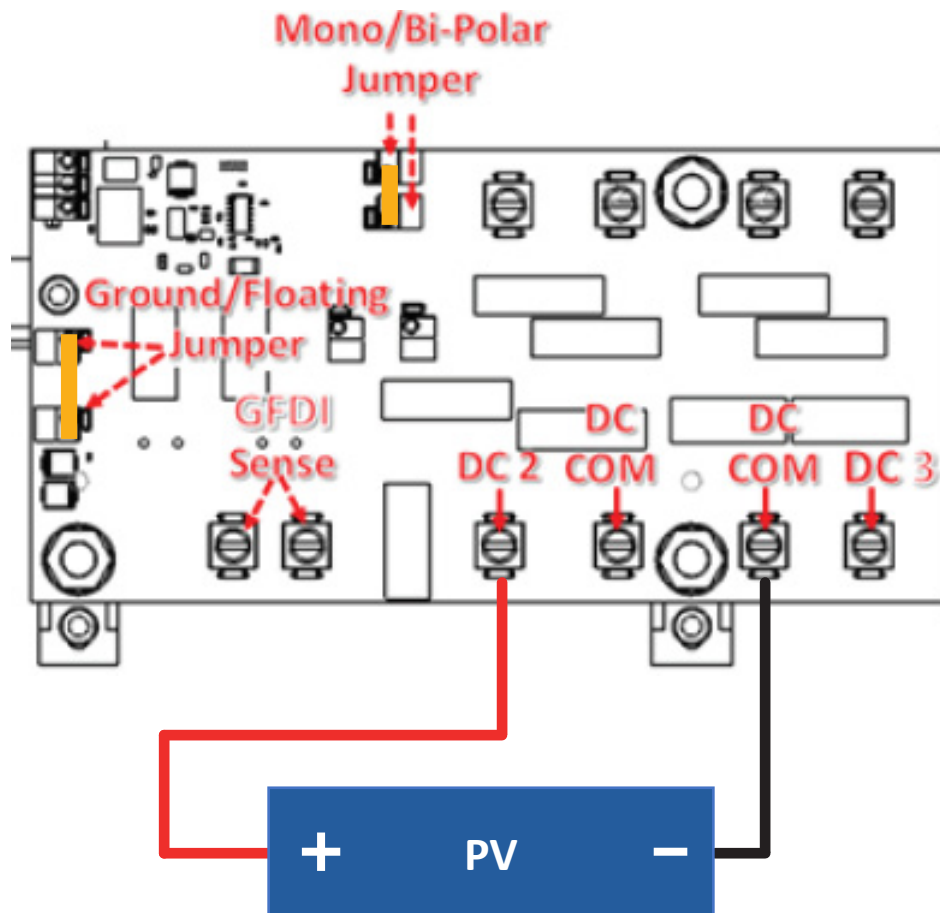

Figure 2. Negative ground referenced monopolar
2. Negative ground references Monopole - Figure 2